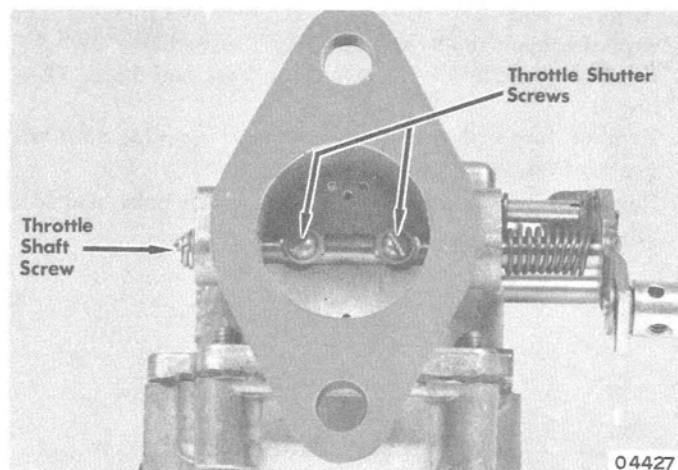

Figure 7. Manifold Side of Carburetor
6. Loosen throttle shutter screws before tightening throttle shaft screw. Back idle speed screw out until throttle shutter is completely closed, then tighten shutter screws. (Figure 7)